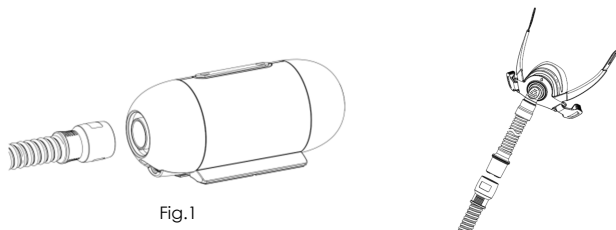

Fig.1
2. Hold the cuff of the tube and gently pull it away from the device as shown in Fig.1.